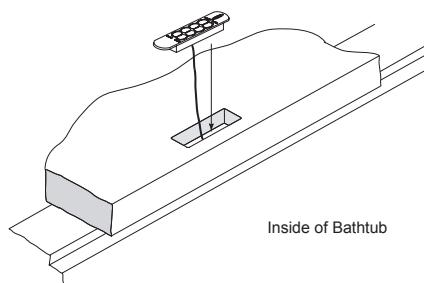

Figure 6 - Control Panel
- 5 Lower the control panel into the cutout and press firmly to embed the adhesive (Figure 6).